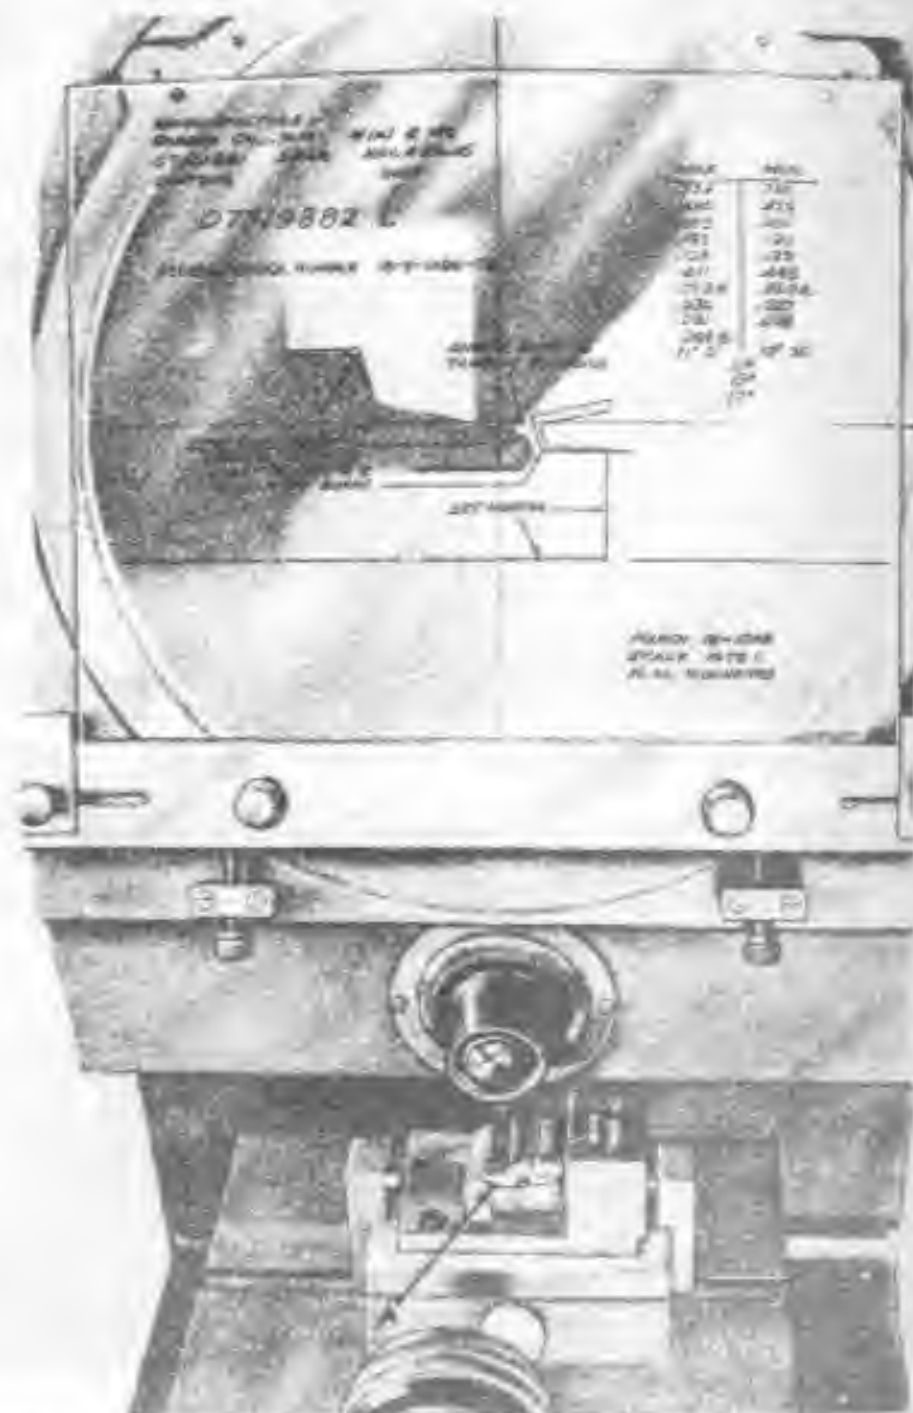

Figure 124. Screen and fixture with sear—slide in position 1—to right.
- (1) Place the sear in the proper position on the staging fixture 7319882 (fig. 11) exactly as shown in figure 124.
- (a) Move the lever, which is in the slot in the fixture slide (fig. 124), to the right against the tension of the spring.
- (b) Place the sear against the face of the fixture and hold it in this position. Release the lever and allow the spring to push the face of the holding bar against the projection (fig. 124).
- (2) On a satisfactory sear, the shadow of the contour being inspected will fall within the limiting lines and conform to the other tolerances specified on the chart. Figure 124 shows the shadow and limits for comparison inspection of only those sections of the sear which are indicated by highlighting.
- (4) Remove the inspected sear, replace with another and inspect as described above.
- (5) Move slide to the right (fig. 124) and inspect as described above.